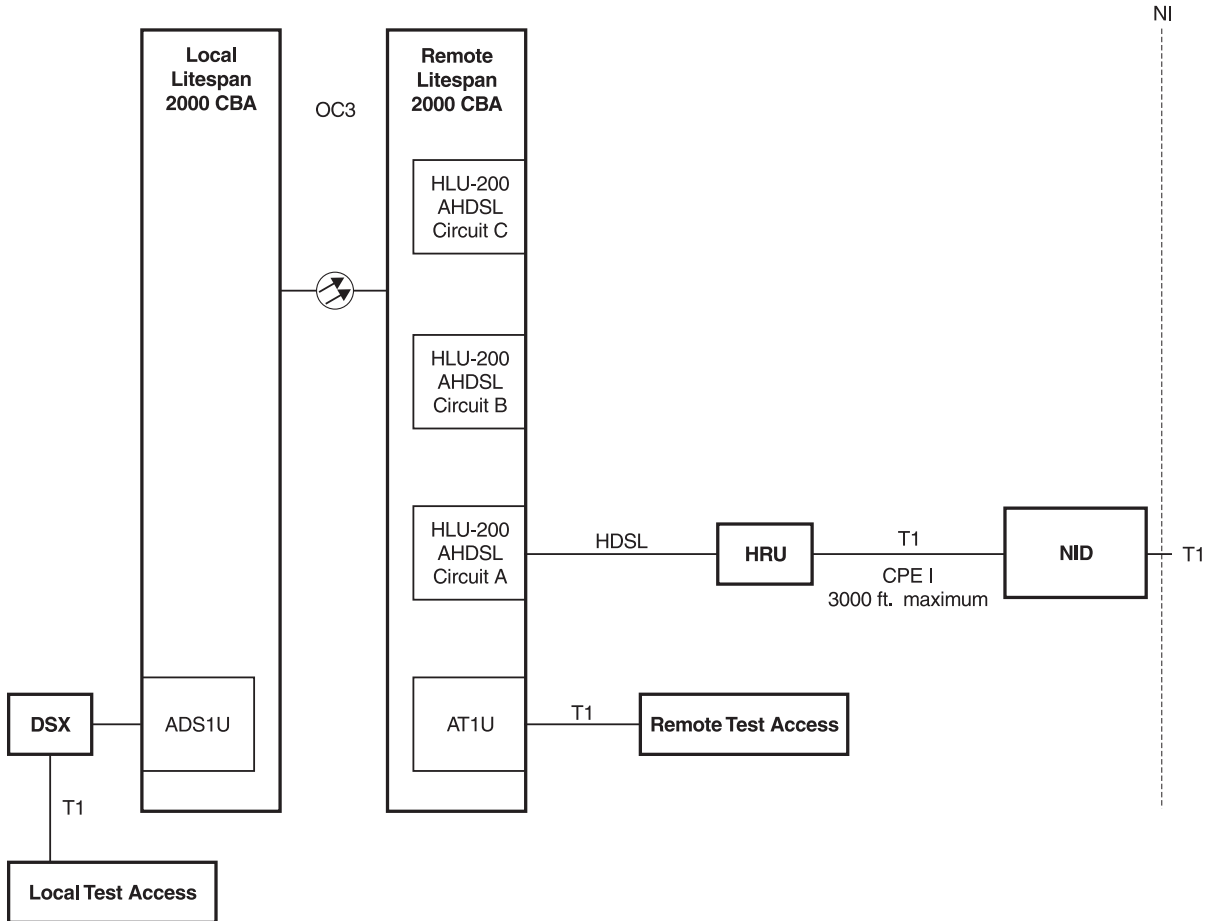

Figure 1. HLU-200 List 2D Typical Applications
The HiGain system provides a cost-effective, easy-to-deploy method for delivering T1 high capacity service over two unconditioned, non-loaded copper pairs. Conventional in-line T1 repeaters, cable pair conditioning, pair separation, and bridged tap removal are not required. For typical HLU-200 applications see Figure 1 on page 2.
The HLU-200 can be cross-connected to another HLU-200 or to any asynchronous T1 channel unit including an HLU-200 List 1D (AHT1U), within its own channel bank or a distant channel bank (as shown in Figure 1). In this arrangement, test access at either the remote or local ends can be accomplished by use of ADS1U and AT1U line cards. These point-to-point dedicated circuits are initiated by issuing the standard TL1-based cross-connect commands or Litecraft commands to the Maintenance and Test Interface (MTI) card, which identifies the HLU-200 List 2D as an AHDSL plug.
Figure 1 shows a typical AHDSL application. As shown in Circuit A, the HRU can be placed up to 3000 feet from the network for extra range. This requires an external Network Interface Device (NID) to be placed at the Network Interface (NI). The HRU must have the SmartJack (SMJK) Loopback (LPBK) option (NIDL PBK) set to Disable for these external NID applications. Since the Litecraft Version 2.0 management system does not recognize doublers, it cannot be used to provision, maintain or monitor the HLU-200 List 2D doubler applications.